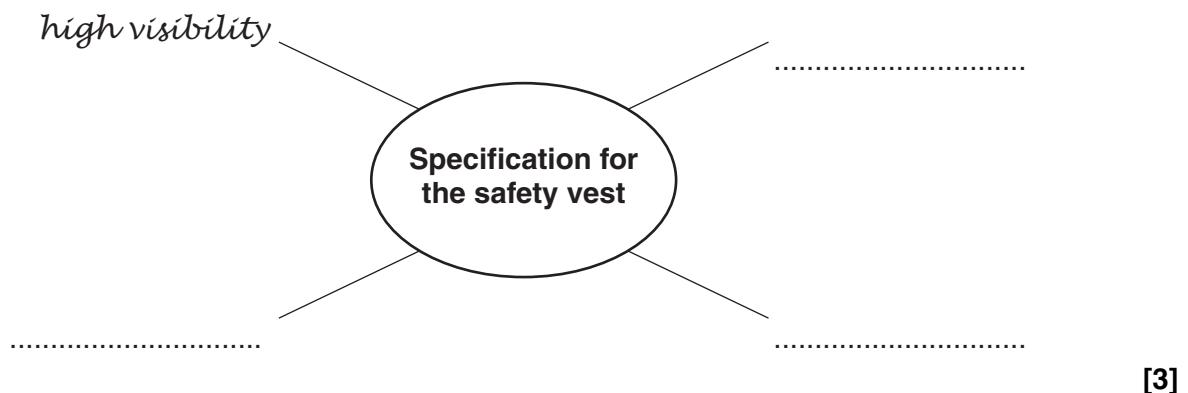

Fig. 1
- 1 Fig. 1 shows a safety vest with reflective strips.